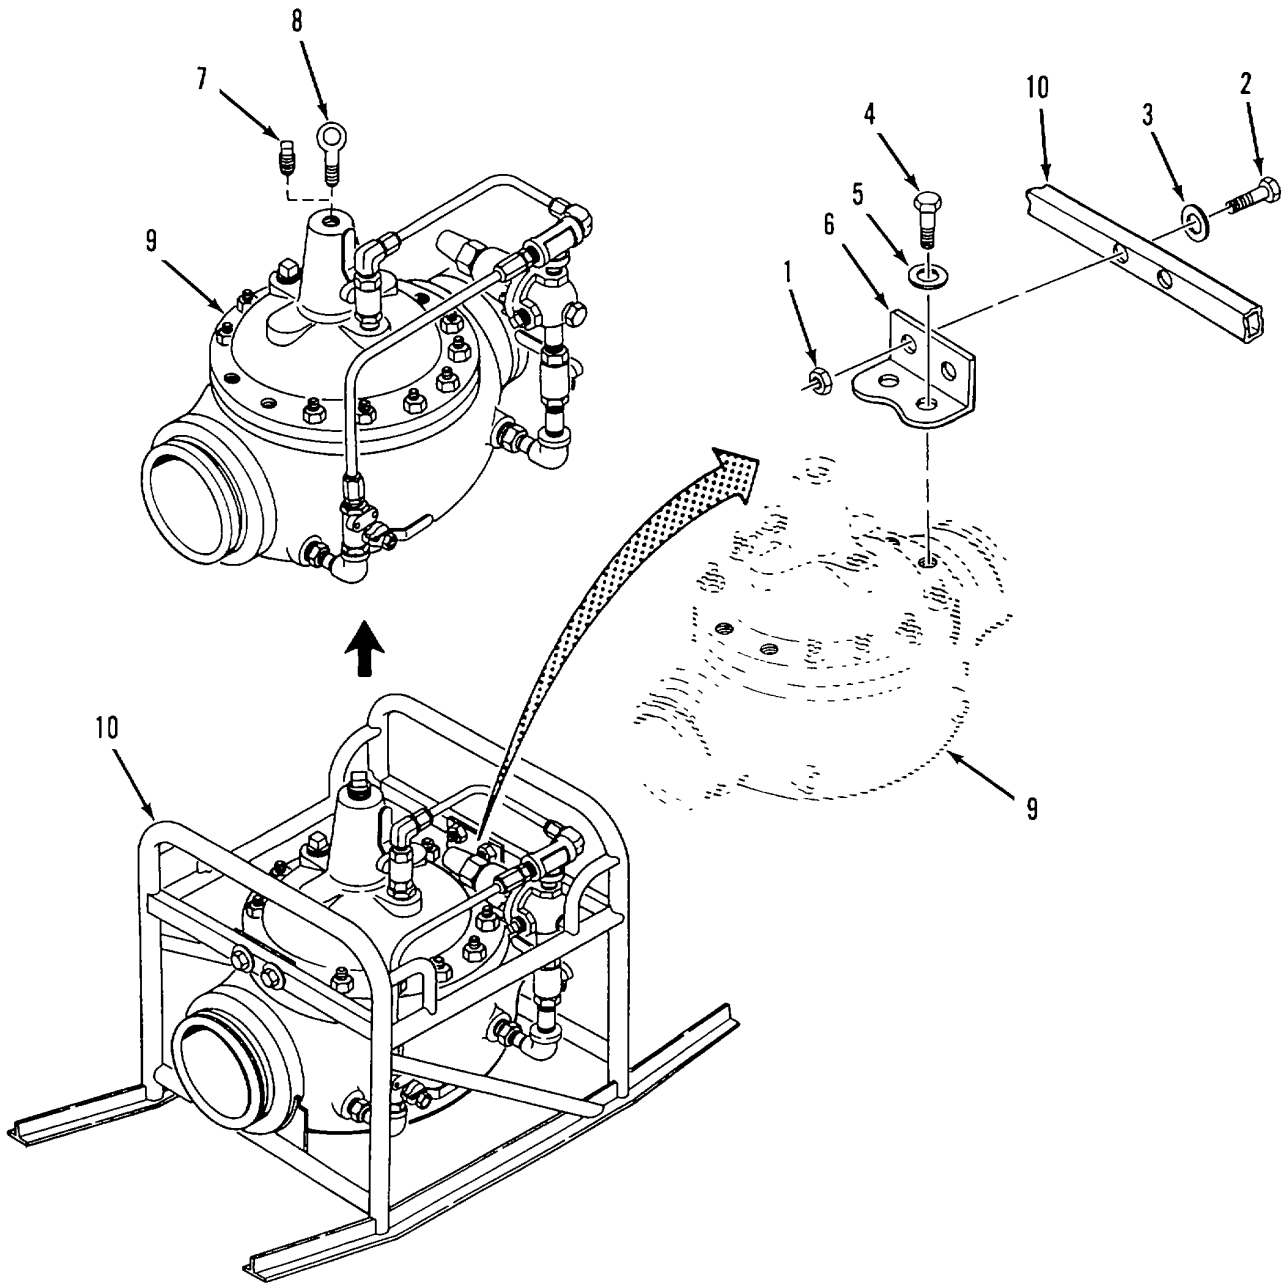

Figure 4-17. Pressure Regulating Valve Removal.
Remove Valve. Refer to figure 4-17.
- (5) Inspect frame (10, figure 4-17) for cracks, broken welds and bent frame components.